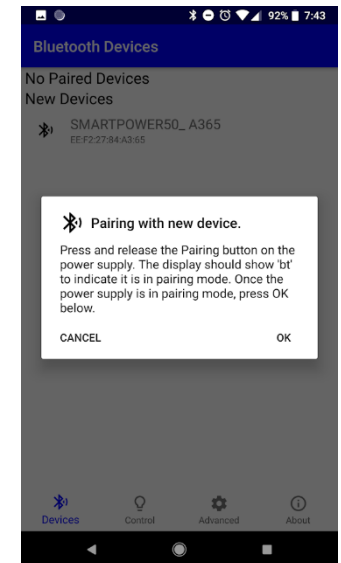

Figure 2
- A dialog box will show on the screen telling you to press and release the 'Pair' button on the power supply. This will put the transformer into 'Bluetooth Pairing Mode'. See Figure 2.